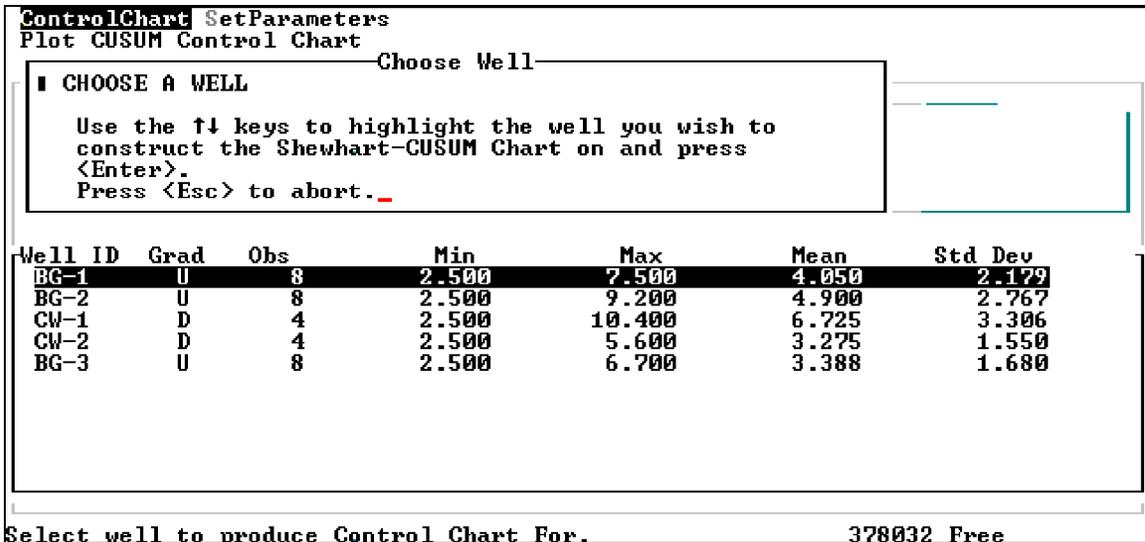

Figure 5-121. The Choose Well dialog.
4. Press <C> to execute the ControlChart option of the ControlChart menu. The Choose Well dialog shown in Figure 5-121 appears on the screen.